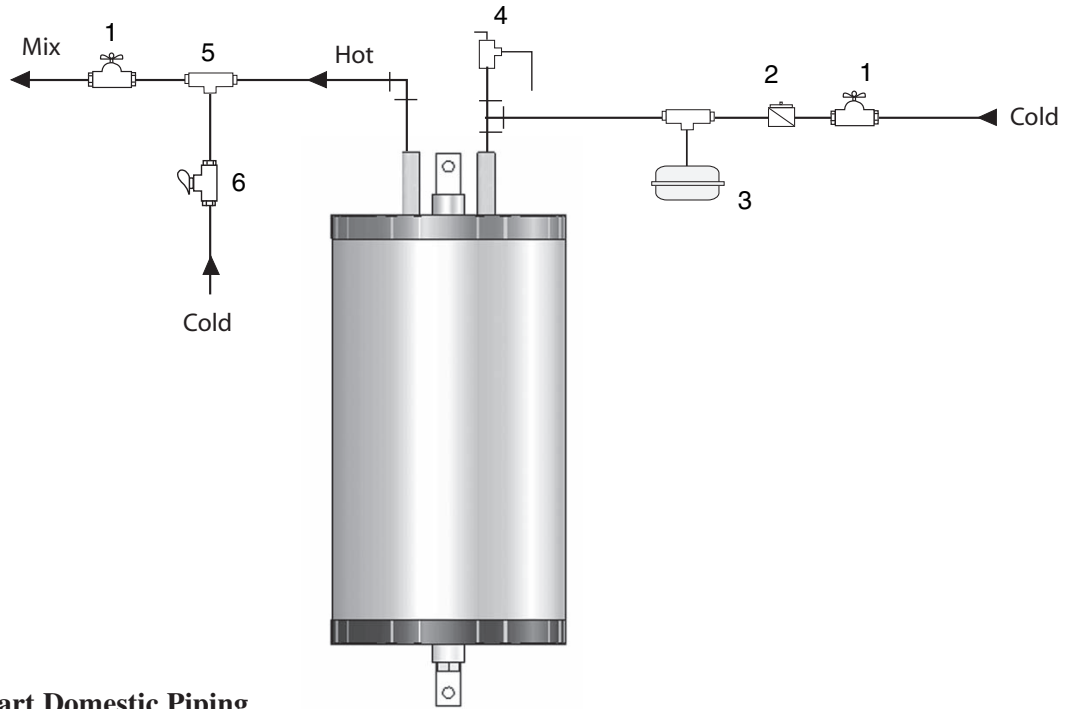

Fig. 3 : Mini Smart Domestic Piping
1. Install the pressure relief with discharge piping on the cold water supply to the water heater as shown in Fig. 3, page 7.